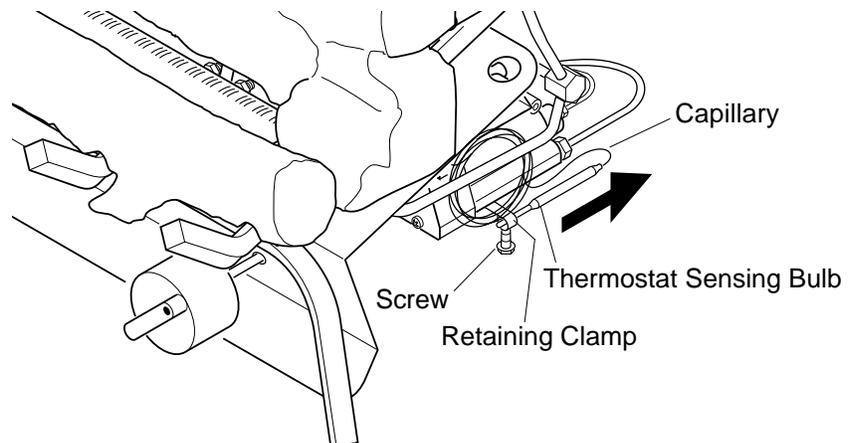

Figure 37 - Removing Thermostat Sensing Bulb
3. With 5/16" hex driver or socket, loosen the thermostat screw. Carefully slide the thermostat sensing bulb out of the retaining clamp (see Figure 37).